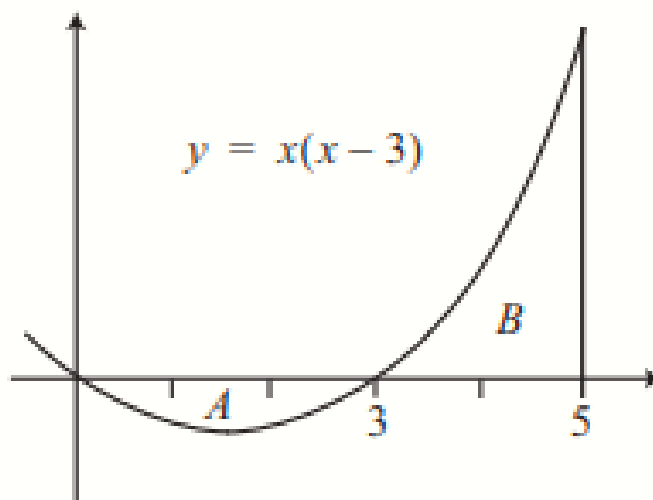

Figure Q6 - Area under the curve.
- b) Using integration, determine the area enclosed between the curve  $y = x(x - 3)$  and the ordinates  $x = 0$  and  $x = 5$  in Figure Q6.